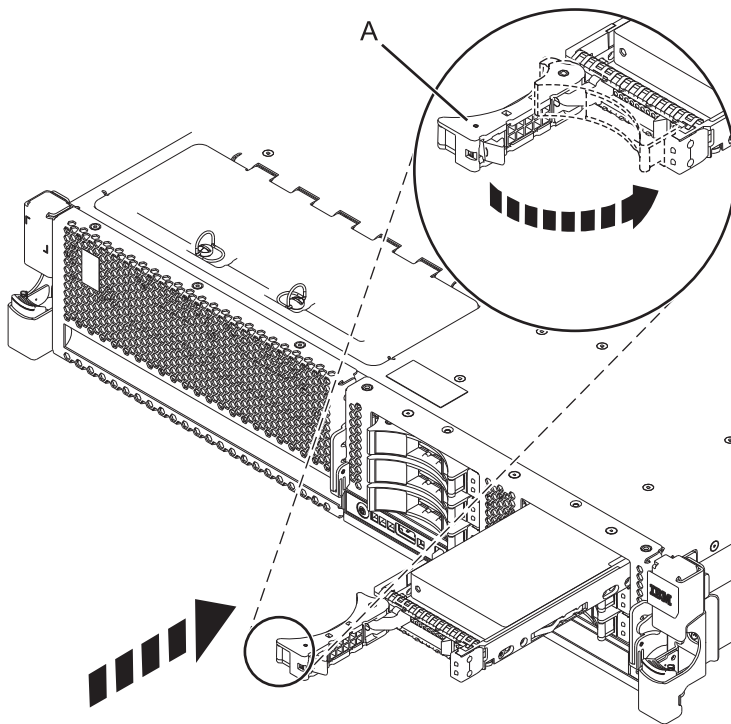

Figure 9. Installing a disk drive
5. Unlock the disk drive handle by pressing the latch lock (A) as shown in Figure 9 and pull out the disk drive handle towards you. If the handle is not all the way out, the disk drive does not slide into the system or expansion unit.
7. Slide the disk drive into the system unit until it stops, as shown in Figure 9.